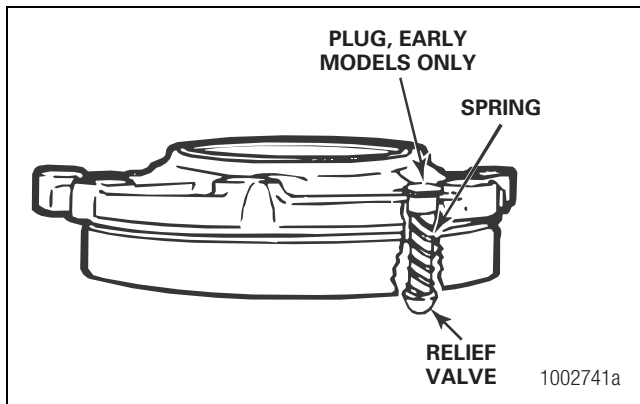

Figure 3.36
10. If necessary, remove the pressure relief valve assembly from the front of the bearing cage. Remove the plug, spring and relief valve from the bore. Figure 3.36.